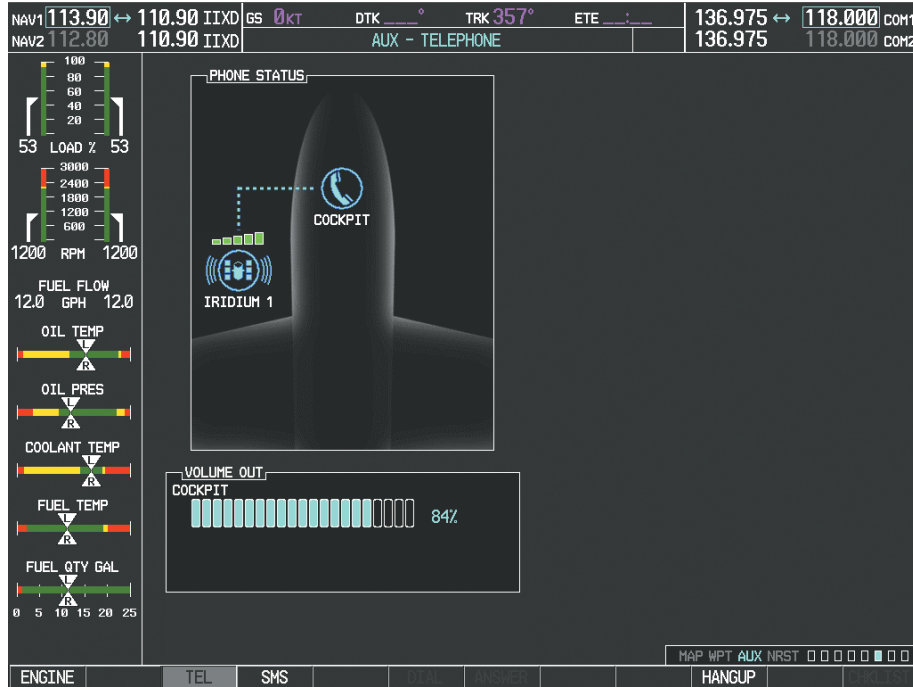

Figure 8-86 System is Making the Connection
- 5) Press the **ENT** Key. The system will begin calling the number, as in Figure 8-86.